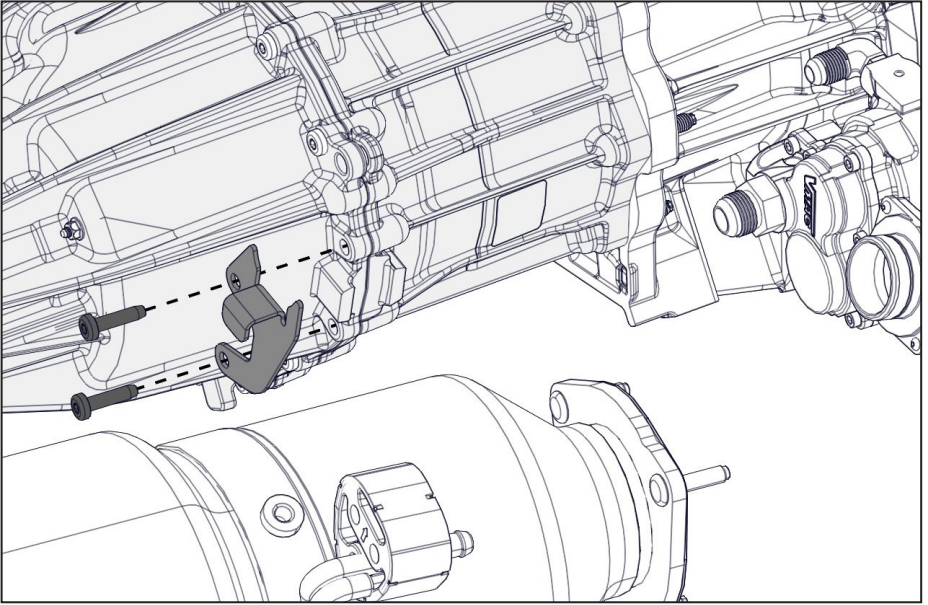

Figure 18 — Install air intake support bracket
- ☐ Apply Loctite 242 (blue) to the transfer case fasteners, removed in the previous step, and install the air intake support bracket (Figure 18).